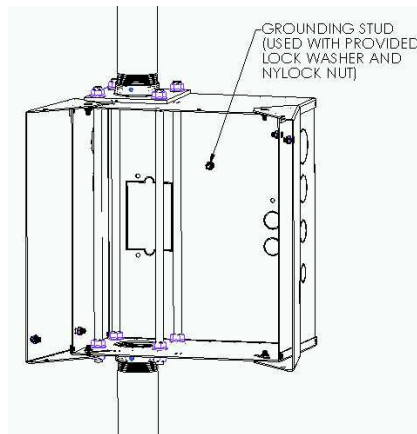

Figure 2. Ground Stud Location
3. If necessary, secure ground wire to grounding stud inside job box using 10-24 Nylock nut and #10 lock washer (see Figure 2).